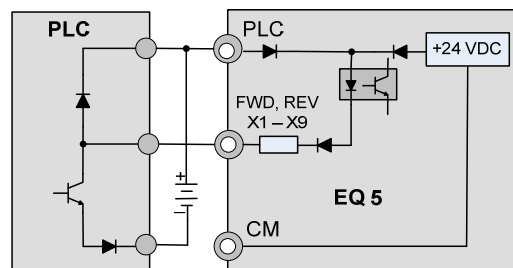

Fig. 2-3-10 PLC Connection for External Power Supply
(2) Digital input terminals (FWD, REV, X1 to X9, and CM)
a. Digital input terminals FWD, REV and X1 to X9 are generally turned on or off by switching the input to (P24) +24V (source logic) or to (CM) 0V (sink logic). If the digital input terminals are turned on or off by a PLC with open collector using an external power supply, a resulting bypass circuit may cause the inverter to malfunction. To prevent this, connect the PLC terminal as shown in Fig. 2-3-10.